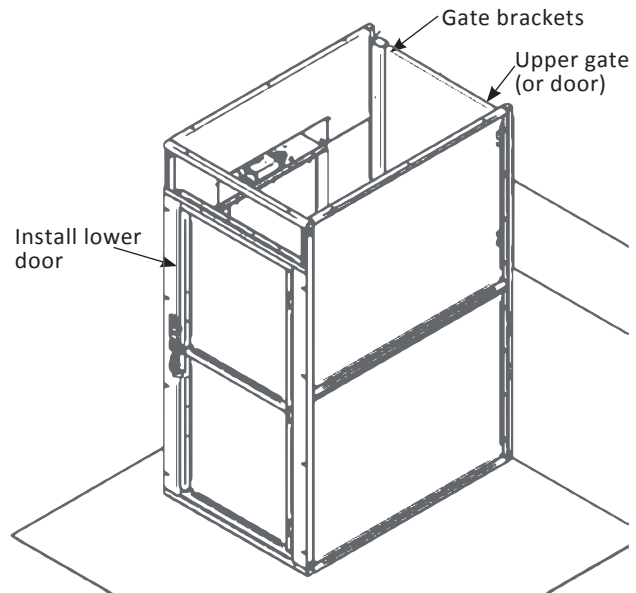

Figure 4-11
3. Your door may come assembled to the frame. The door assembly weighs more than 200 lb, so take care in lifting it into place and be careful not to scratch it. Put eight bolts into it and leave them loose before final placement. You'll need to adjust the position both vertically and horizontally to match the threshold of the ramp (or upper landing). **See Figures 4-11 and 4-12.**